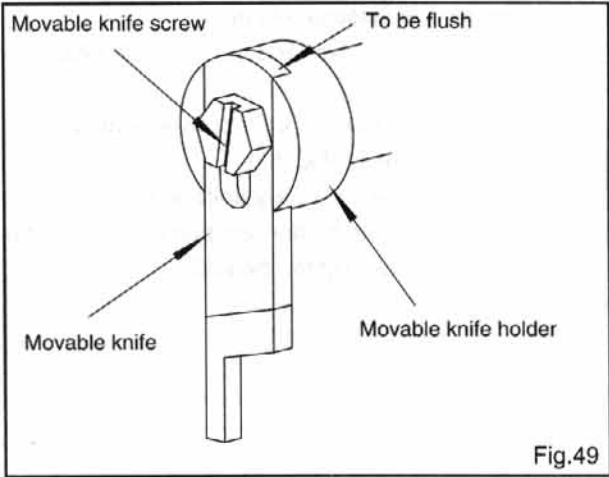

Fig.49
- Loosen movable knife screw and set movable knife flush with movable knife holder and tighten the screw. ( Fig. 49 )